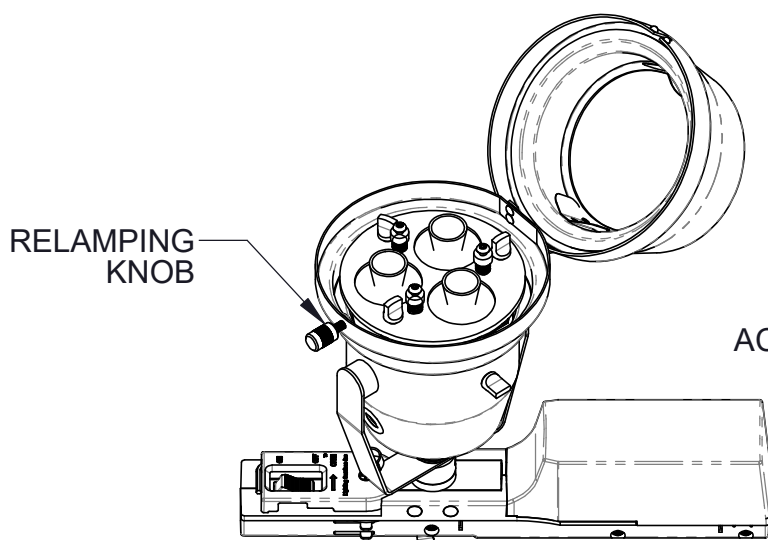

FIGURE 11. FIXTURE FRONT OPEN
2. OPEN THE FIXTURE VIA THE RELAMPING KNOB (FIG. 11).